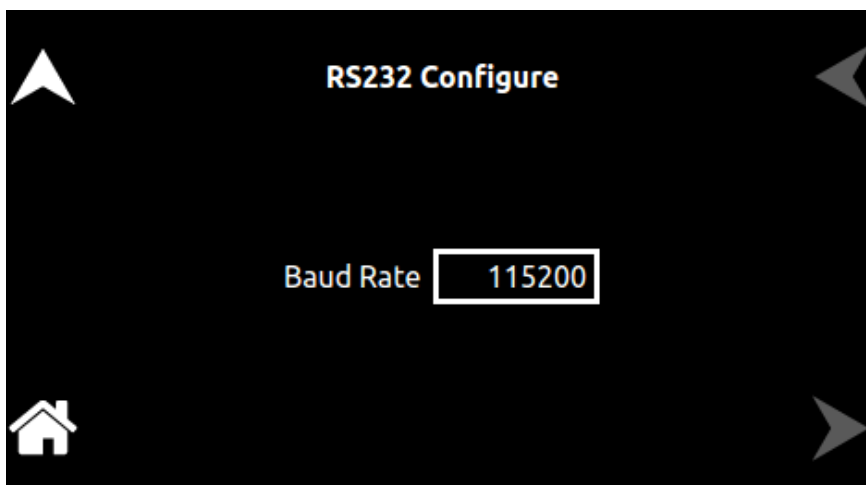

Figure 4-4. RS232 Screen (Configure)
2. Set the rear panel Remote/Local switch to Remote (ON).
4. The baud rate is selectable through the front panel, see Figure 4-4. Change the baud rate for RS232 to 19200.